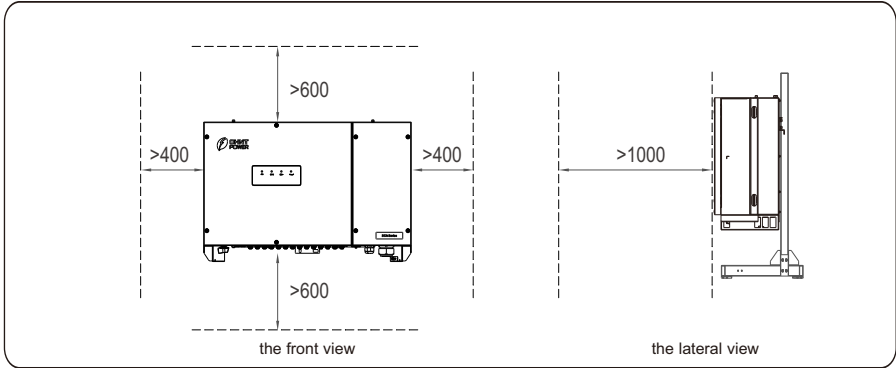

Figure 4.3 Installation space requirements (unit: mm)
- b. Reserve enough clearance around the inverter to ensure sufficient space for installation and heat dissipation, as shown in Figure 4.3.